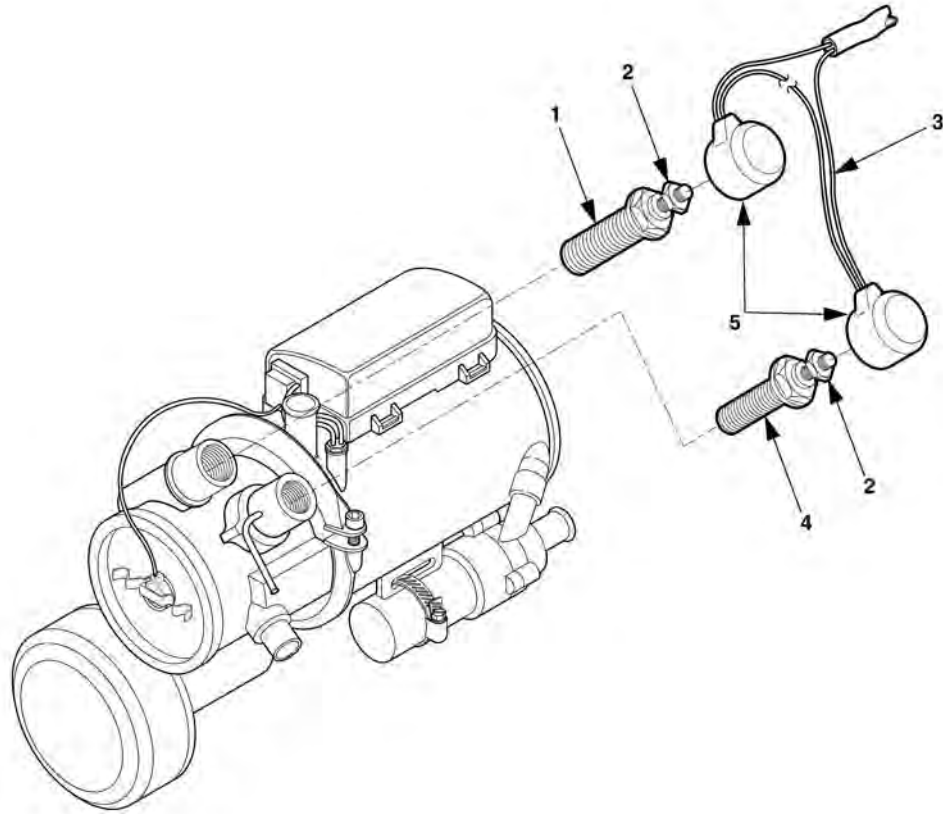

Figure 4-28. Igniter/Glow Plug And Resistor Maintenance.
2. Remove caps (5), Figure 4-28, from igniter/glow plug and resistor.